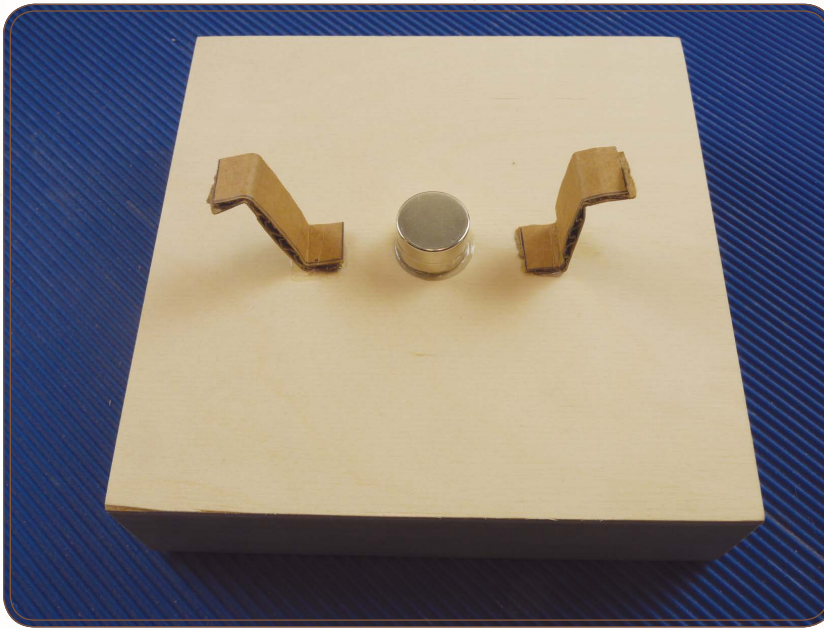

Figure 8.5: Attach the magnet and standoffs to the base.
6. While you're waiting for the glue to dry, fold the cardboard strips into Z shapes as shown in Figure 8.5. Glue the two disc magnets, stacked on top of each other, and the Z-shaped cardboard strips to the 6-inch square board base as shown.